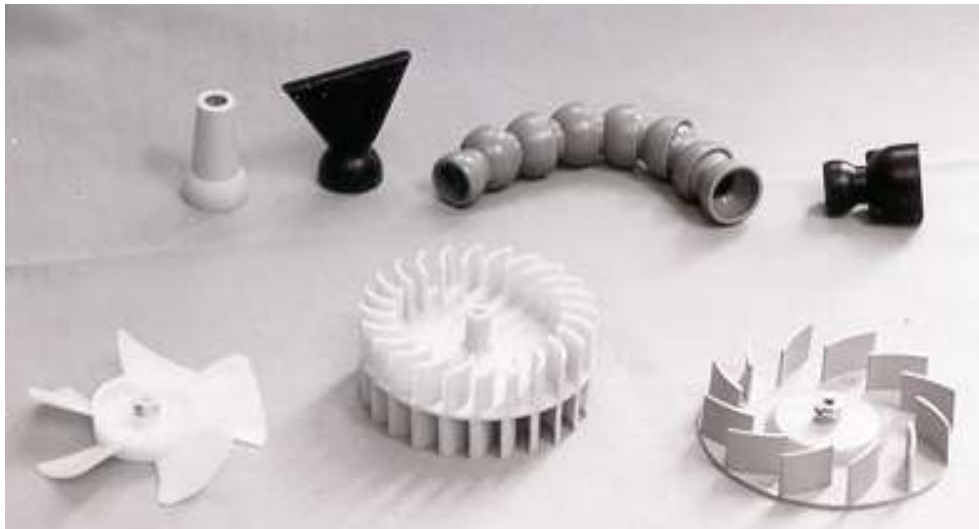

Figure 26. Turbine kit containing 3 turbines, 2 nozzles, 1 hose coupling and 1 connector section
1. **The “Kit.”** Each team will receive a Turbine Kit. Any or all of the parts in this Kit may be used. (See *Figure 26* for supplied components.) At a minimum, one of the supplied turbine wheels must be used. You may use 2 or even all 3 turbine wheels if you want, but only these 3 and no others. No modifications can be made to any of the parts of the Kit (so we can re-use them in future years). Pick up your parts from Sylvana in RRB 101.